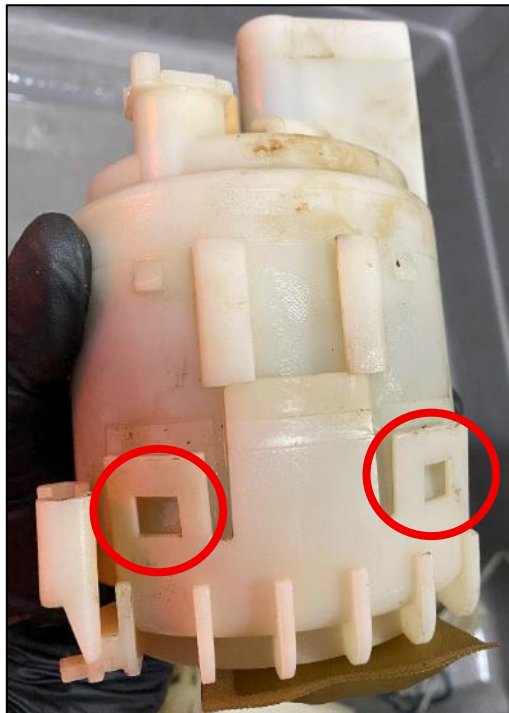

Figure 11
3. Release the (4) four Tabs on the bottom half of the Fuel Basket Assembly and pull the bottom piece away. The OE Fuel Pump will be contained within this piece. *Figure 11.*